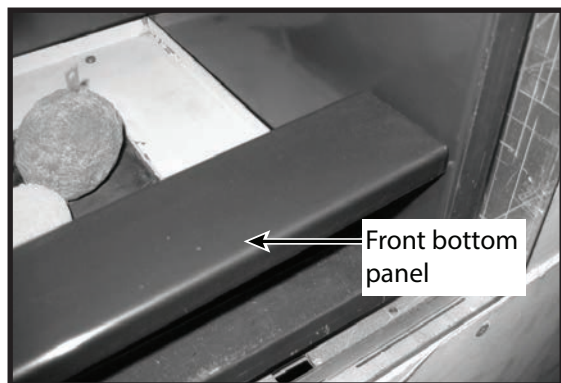
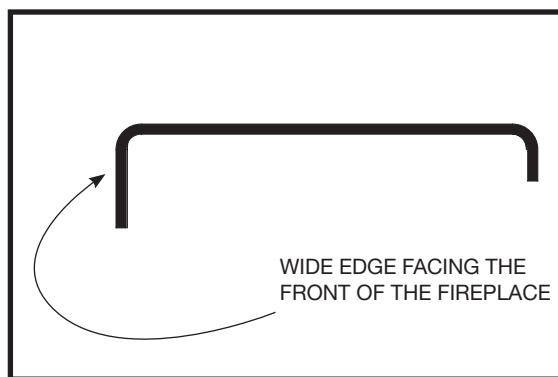

Figure 48: Front panel.
Figure 49: Front panel - side view
4. Place the front bottom panel (Figure 48) on the front lip of the firebox, wide flange facing the front (Figure 49). (Proceed to step #5 if you are installing a TCWS.54NG03.C2 Black Diamond burner with this unit.)